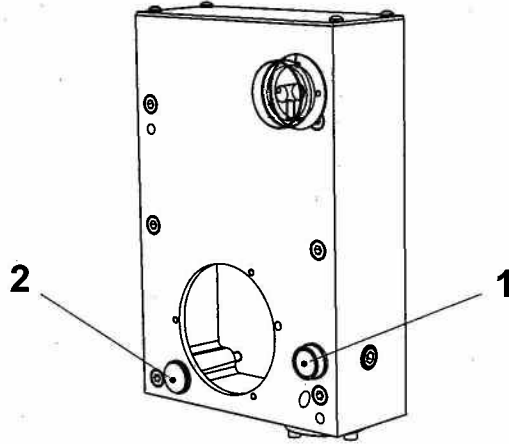

Figure 12 Oil filling and level indicator, feed gear box
- The feed gear box's worm gear sits in an oil bath. Add oil (approx. 0.3 liters) via the filling hole (1) up to the middle of the level indicator (2), see figure 12.